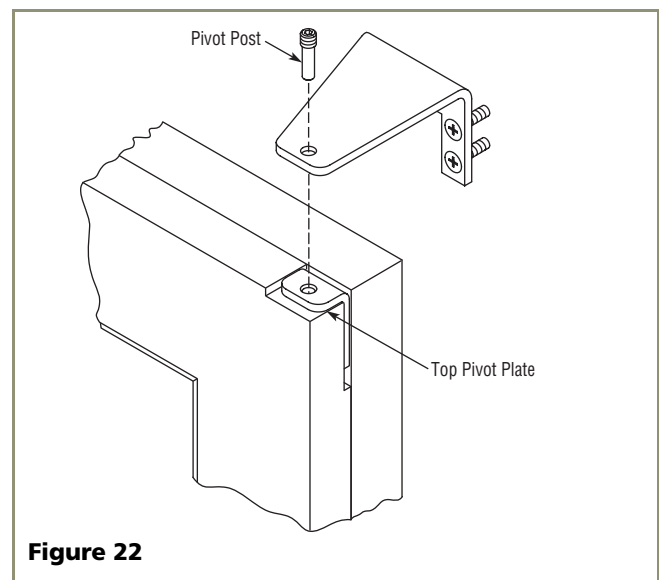

Figure 22
- Tilt top of door into position and install top hinge screw pin. See **Figure 22**. Tighten only until post is level with top of hinge.